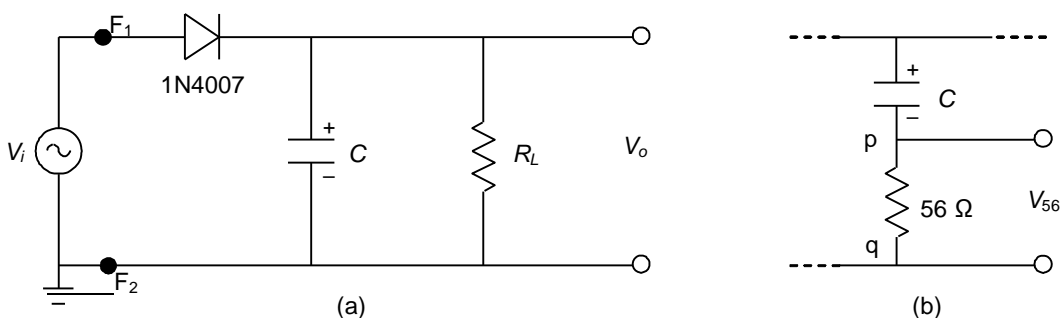

Fig. 1 Half-wave rectifier.
2. Set up the circuit as shown in Fig. 1(a) without the capacitor C , taking $R_L = 2.2 k\Omega$.
3. Now, connect the function generator to the circuit at points F_1 & F_2 as shown in Fig. 1(a).
1. Now connect a capacitor $C = 22 \mu F$ in the circuit with correct polarity as shown in Fig. 1(a).
4. Connect a 56Ω resistance in series with C of Fig. 1(a) as shown in Fig. 1(b). The points across this 56Ω resistor are marked as **p** and **q**.